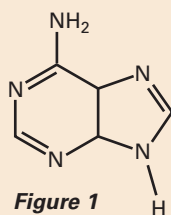

Figure 1
Purines (Figure 1 and 2) are a group of widely occurring substances, including caffeine. Adenine (A) and guanine (G) in DNA are purines. They have a two-ringed structure containing carbon and nitrogen.